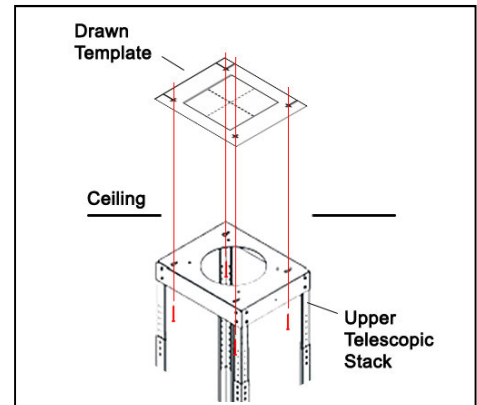

Figure 1
10. Mark the centerline of the cooktop/range on the ceiling. Use that centerline to determine the position of the range hood as shown in Figure 1.